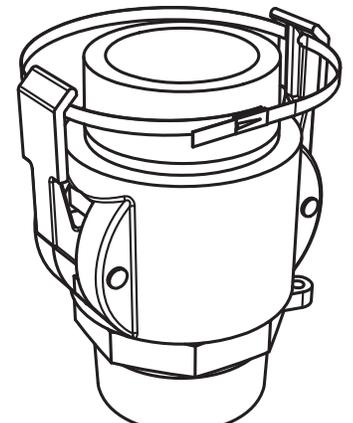

Figure 6
- 5.) Secure the handles in the closed position by running the enclosed stainless zip tie through the holes in the handles, and cinching it down tightly (Figure 6)